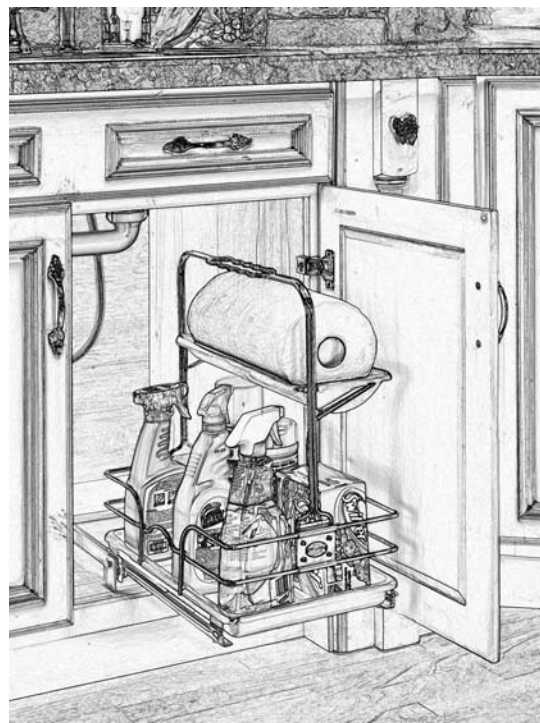

FIGURE 4
Step 4: Make sure that the unit will slide in-and-out without any interference. Adjust the upright to the left or right side, if necessary, and proceed by tightening the caddy upright screws in the front and rear of the unit. (as shown in Figure 4). (Note: The unit is more balanced if upright is centered.)